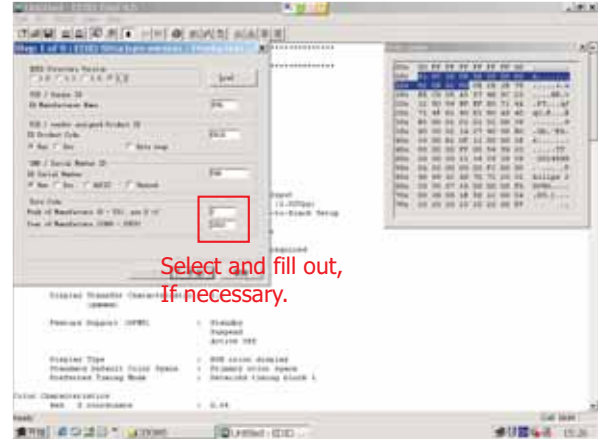

Fig. 15
1. Click  (new function) icon from the tool bar, bring up Step 1 of 9 as shown in Fig. 15. EDID45 DDC application provides the function selection and text change (select & fill out) from Step 1 to Step 9.